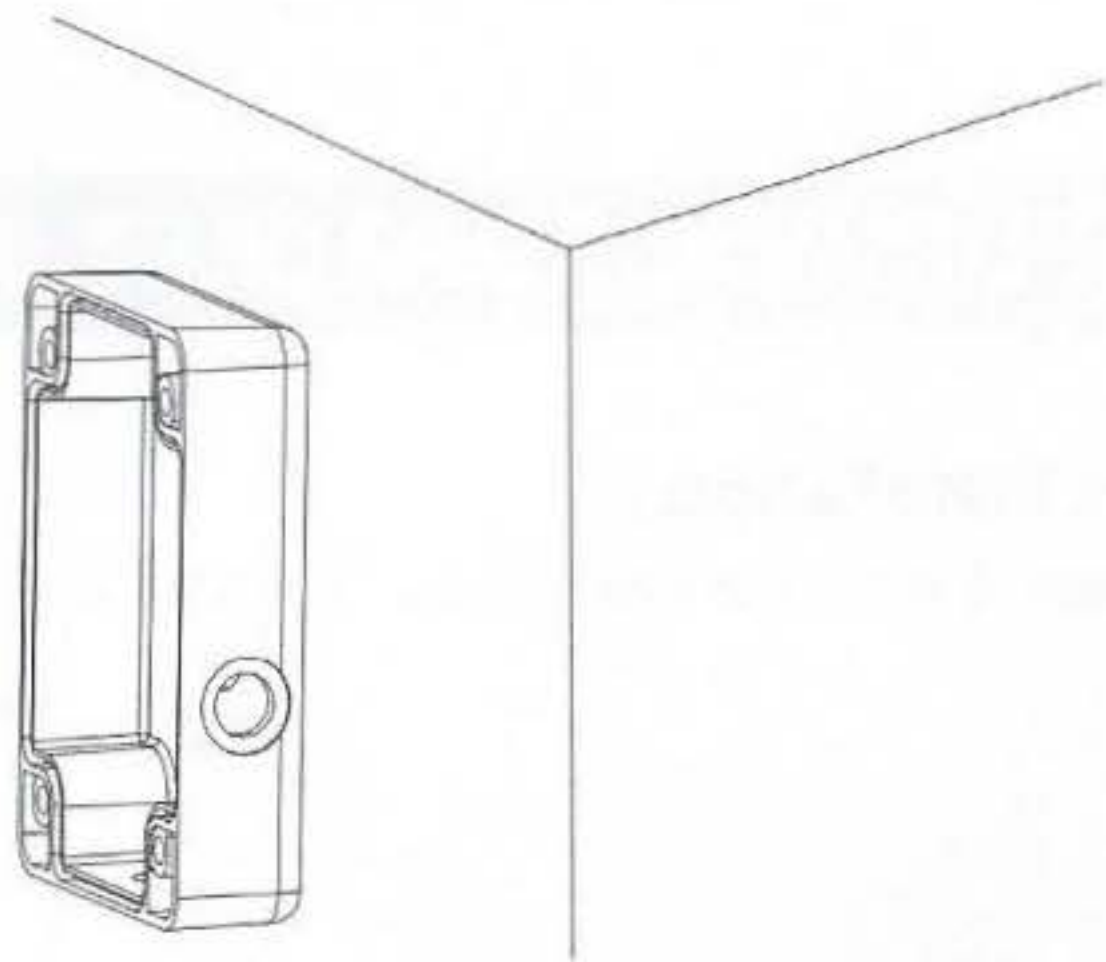

Figure 4-2
- 1) Please draw four holes position in the wall according to the holes of the bottom of junction box. Then you can dig four holes and insert the expansion bolts (not provided). Use four hex bolts and flat washer to fix the box in the expansion bolts. See Figure 4-2.